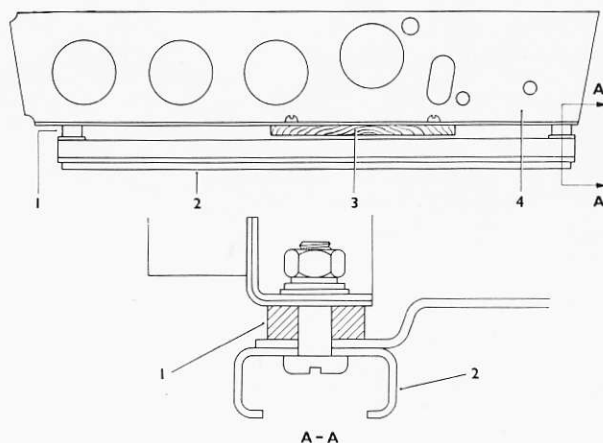

Fig. S51 Method of fitting hardwood block to eliminate front seat rattles — early S1 cars
- (i) Remove the existing mount and in its place fit a short hardwood block and aluminium distance pieces as shown in Figure S51, then refit the runners.